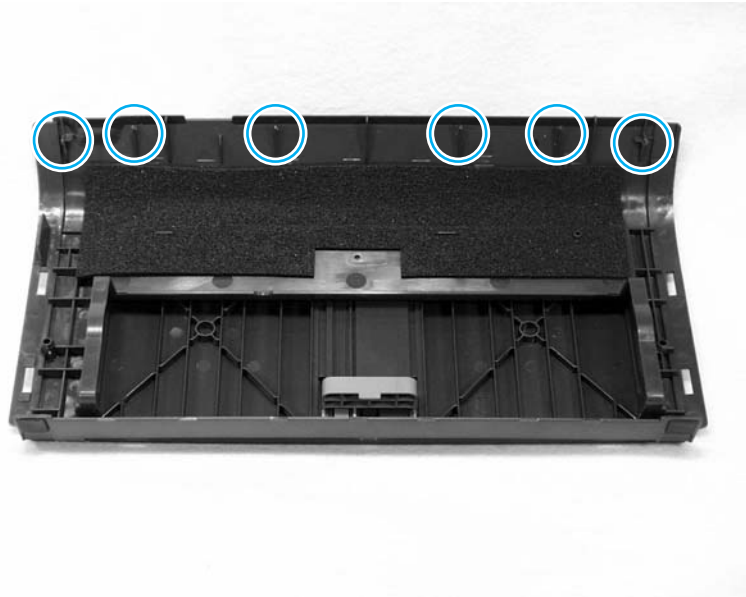

Figure 5-14.
4. Prior to removal, examine figure 5-14 and note the locations of plastic tabs (circled) at the top of the front cover.